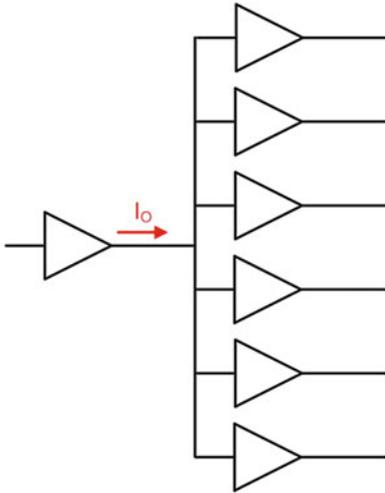

Fig. 3.38
3.4.1 In the driver configuration shown in Fig. 3.38, the buffer is driving its maximum fan-out specification of 6. The maximum input current for this logic family is $I_i = 1 \text{ nA}$. What is the maximum output current (I_o) that the driver will need to source?